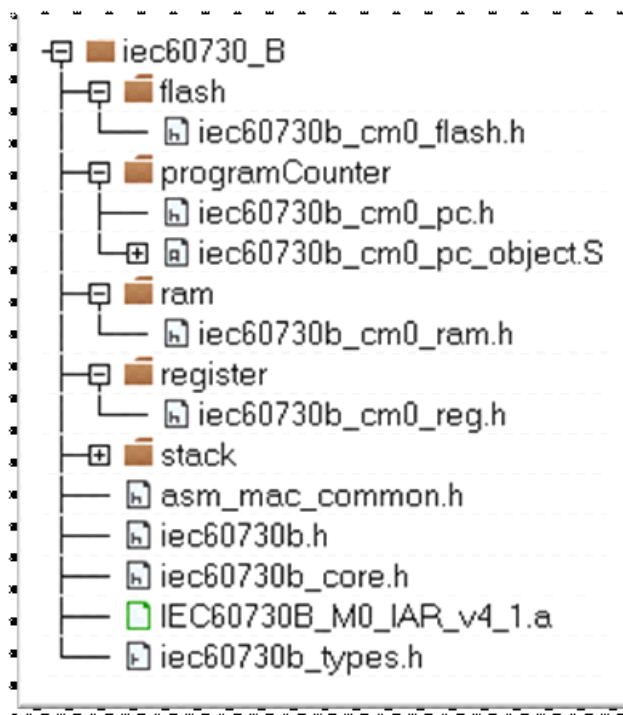

Figure 1. Files imported to the project
- The example is shown in Figure 1.